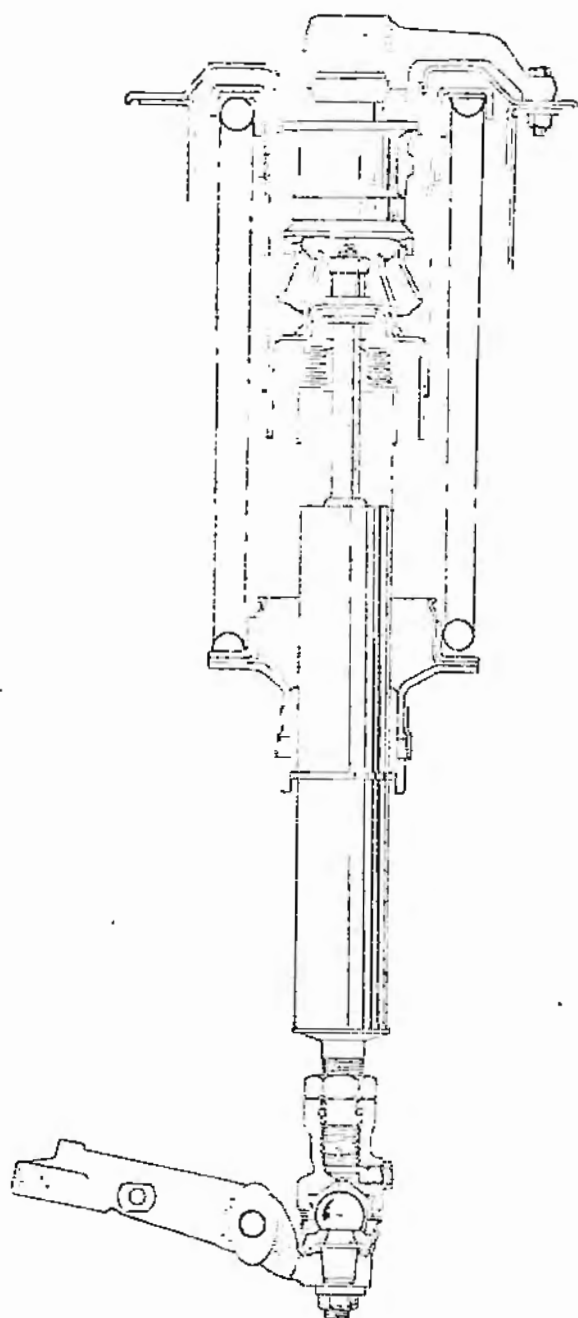
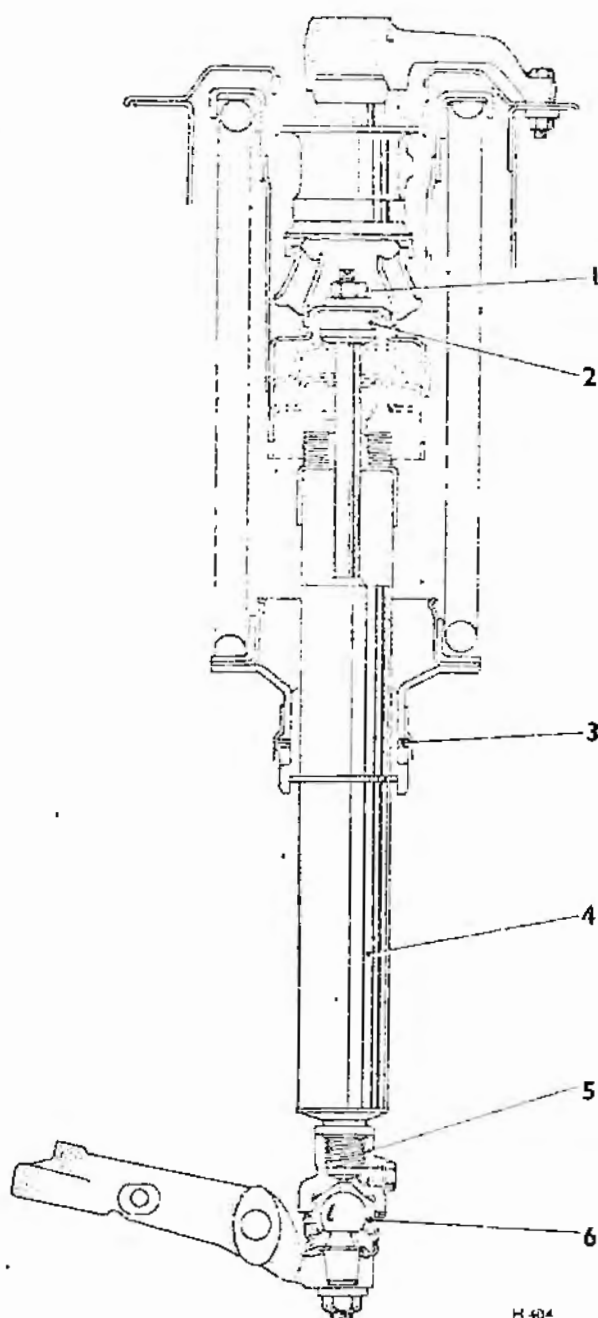

FIG.1 Front Suspension Damper Arrangement - Earlier Type
FIG.2 Front Suspension Damper Arrangement - Current Type
The front shock damper arrangement shown in Figure 1 is common to production cars built prior to the following car numbers - SBH 1433 and CRX 1583.
The front shock damper arrangement shown in Figure 2 is common to cars produced after the foregoing car numbers with the exception of the following cars which have the arrangement shown in Figure 1.
The arrangement shown in Figure 1 provides a means of fine adjustment which permits 0.46 in. (11,51 mm.) alteration to the car front height. This adjustment is described in Section H5, page H36 of the Workshop Manual.
The arrangement shown in Figure 2 which supersedes the Figure 1 dispenses with the fine screwed adjustment. However, fine adjustment can still be achieved by utilising a new packing piece which is 0.064 in. (1.59 mm.) thick. It is permissible to position a maximum of six of these packings, if required, with the existing thicker packings beneath each front spring seat.
The absence of a lock nut denotes the current arrangement shown in Figure 2 which means that no screwed adjustment should be attempted when setting the car front height.
To fit the damper, use the distance piece and securing nut provided, conforming to the arrangement illustrated in Figure 2.
Whenever the new arrangement is encountered, it is essential that existing fittings are retained and utilised whenever a damper is renewed. Under no circumstances should a distance collar and standard nut be fitted to the damper spindle such as those illustrated in Figure 2 (items 1 and 2) of the previous Bulletin.
- 3 BALL JOINT HOUSING - COMMON TO FIGURE 2